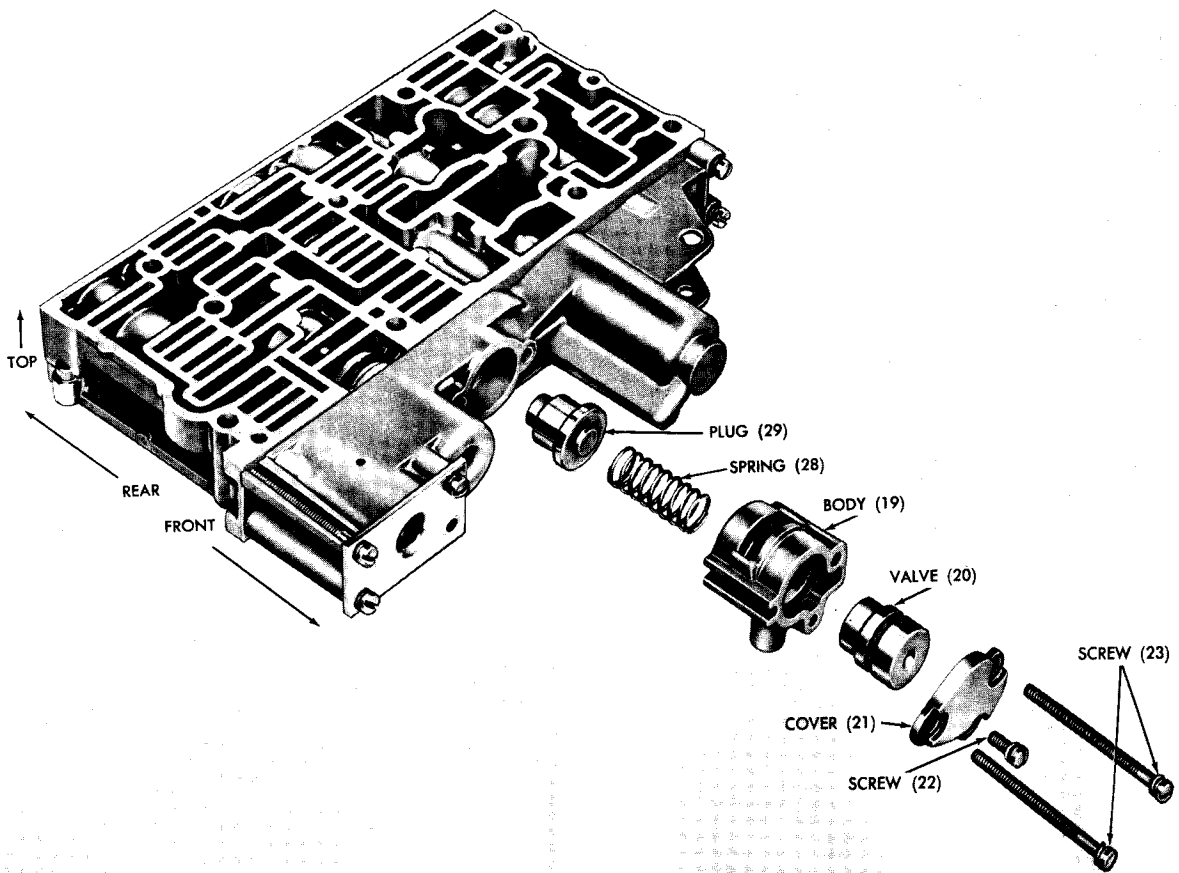

Fig. VIII-7 Splitter overcontrol valve components — exploded view
(8) Splitter overcontrol valve components (fig. VIII-7)